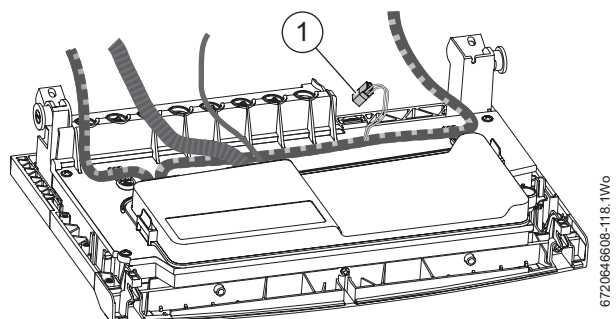

Fig. 24 Unused connector
i Refer to Figure 24. The connector (1) in the wiring harness is provided for the installation of the Hot Water Pre-Heat accessory - 7 716 192 744